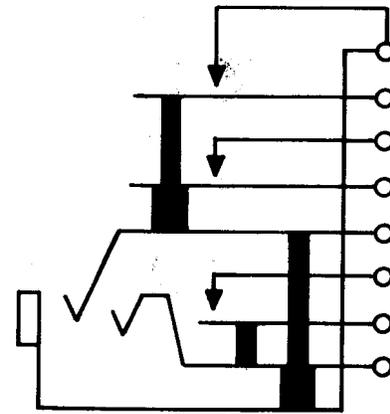

Fig. 21—244A Jack
2.21 244A: This single-mounted jack (Fig. 21) is used with 150, 184, 213, 262, 310, 320, 331, 338, and 349 plugs. This jack is heavily insulated. The solder-type terminals are arranged to accommodate two No. 19B and S gauge wires. These jacks are arranged for use with a 310 or similar-type plug and mounted with the springs in a vertical plane.